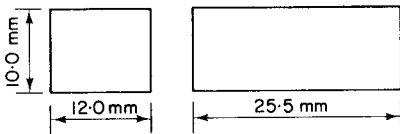

Fig. 3.89 The three dimensions shown define completely the size of the finished object
(1) Every dimension which is necessary to define the finished workpiece should be shown on the drawing. It should appear once only (Fig. 3.89).